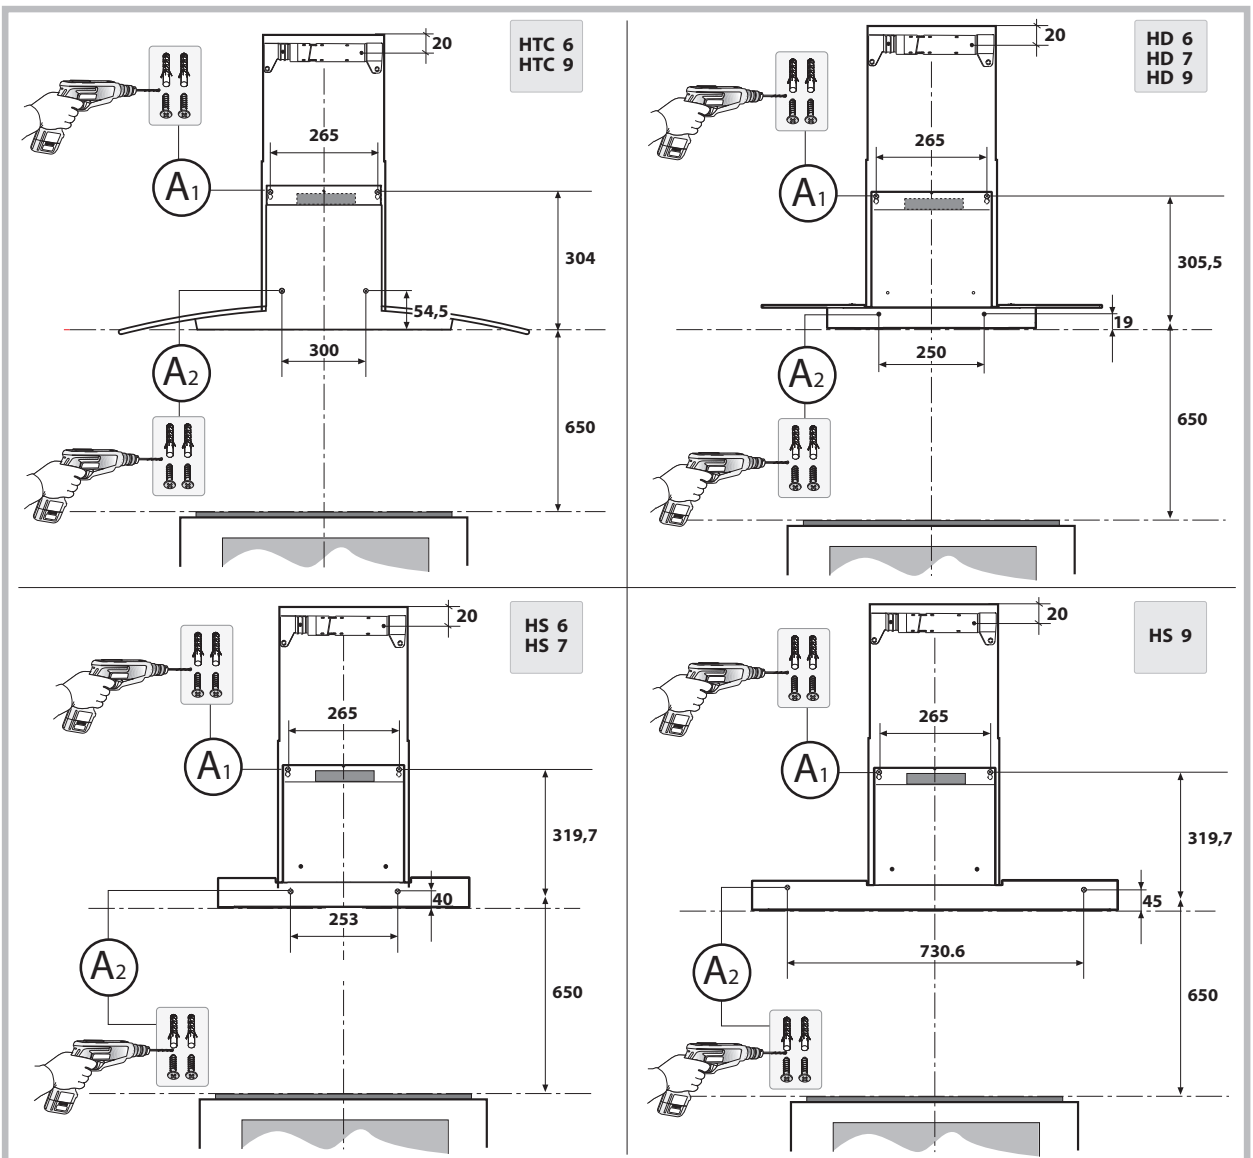
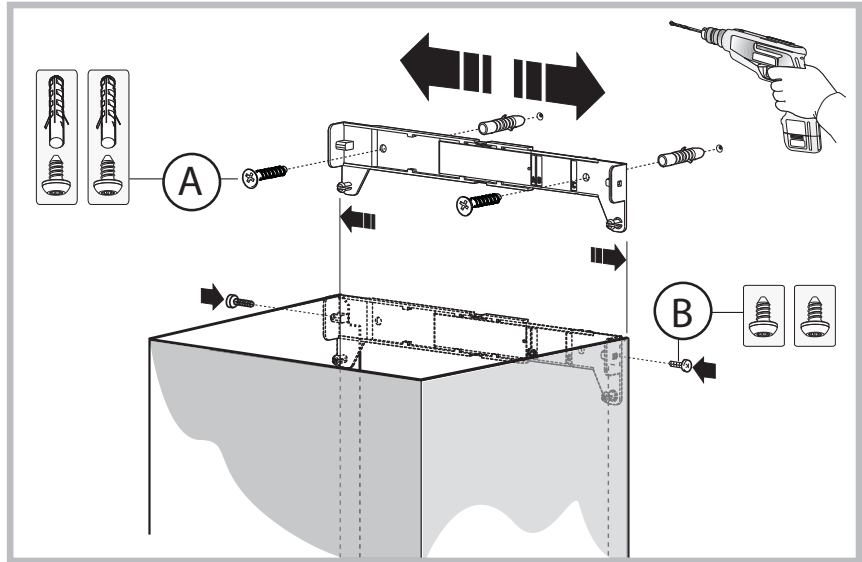
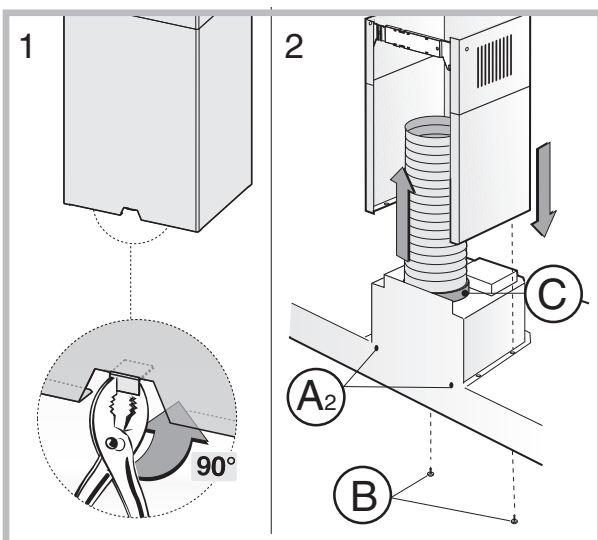

Fig.2
Fig.3B
Fig.5
Drill the holes **A1** respecting the distances indicated (Fig.2).
When the appliance has been adjusted, definitely fix the hood using the screws **A2** (Fig.5).
**warning!** If your appliance model features the lower connector with a tab, before fixing it in place bend the tab inwards using a pair of pliers, as illustrated in **figure 5, step1**.
Adjust the width of the support bracket of the upper flue (Fig.3B).
Then fix it to the ceiling using the screws **A** (Fig.3B) in such a way that it is in line with your hood and respecting the distance from the ceiling indicated in Fig.2.
Connect the flange **C** to the air exhaust hole using a connection pipe (Fig.5).
Insert the upper flue into the lower flue. Fix the lower flue to the hood using the screws **B** provided (Fig.5), extract the upper flue up to the bracket and fix it with the screws **B** (Fig.3B).